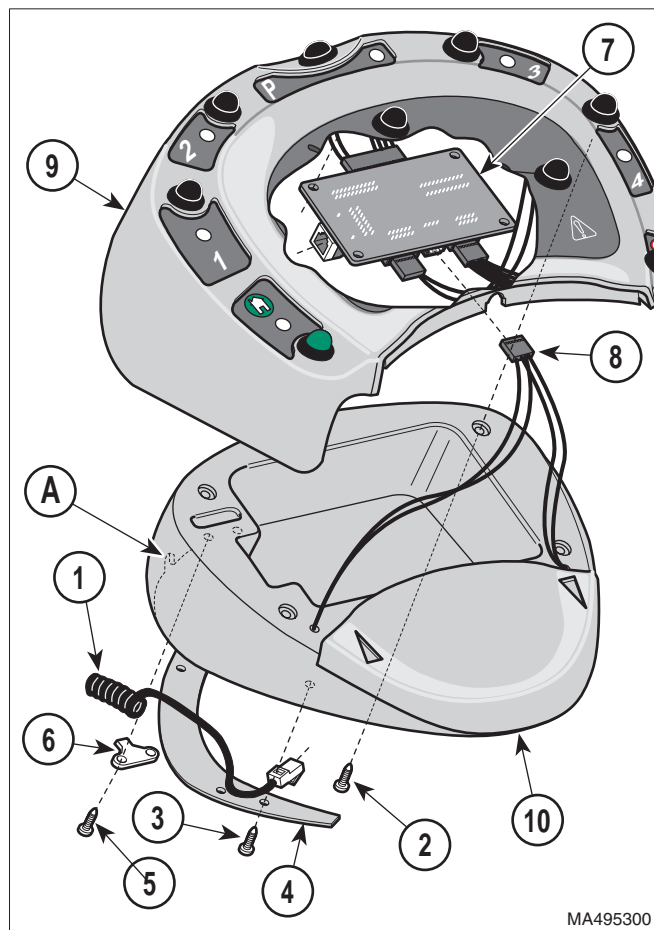

Figure 4-38. Foot Control Top Removal / Installation
- (1) Disconnect coil cord (1, Figure 4-38) from table.
- (2) Remove four screws (2), four screws (3) and bottom cover (4).
- (3) Remove two screws (5), and strain relief bracket (6).
- (4) Disconnect coil cord (1) from PC board (7).
- (5) Disconnect wire harness (8) from PC board (7) and remove foot control top (9) from foot control base (10).